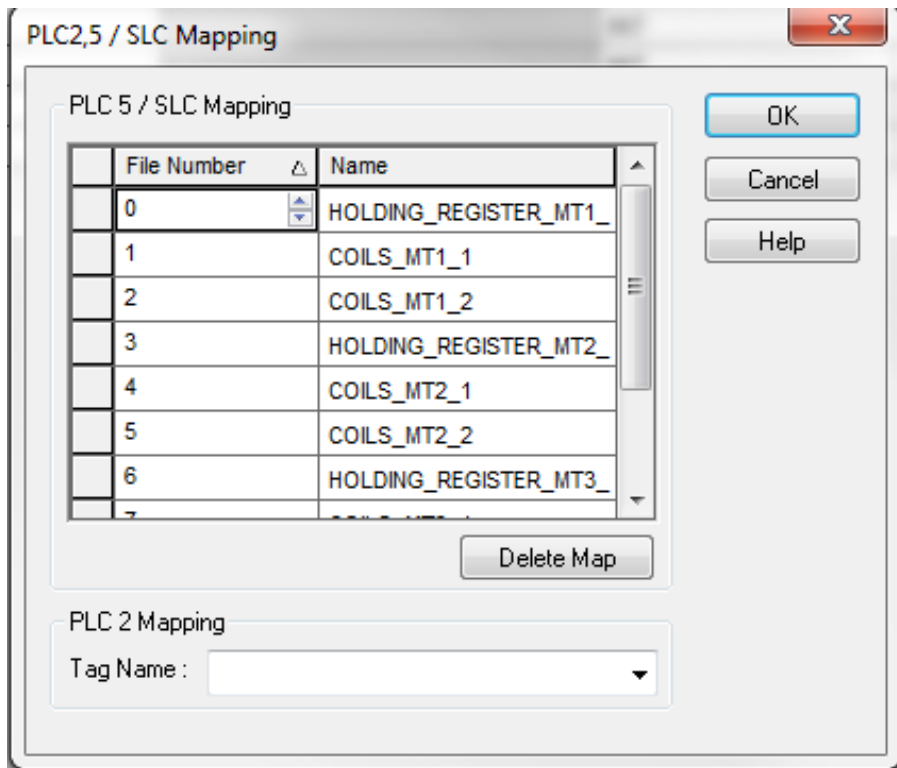

Figure 14: Mapping the appropriate tags to file number
3. Start mapping the tags created according to the File and Slave Number tag of the excel file provided as shown in Figure 14 & 15.